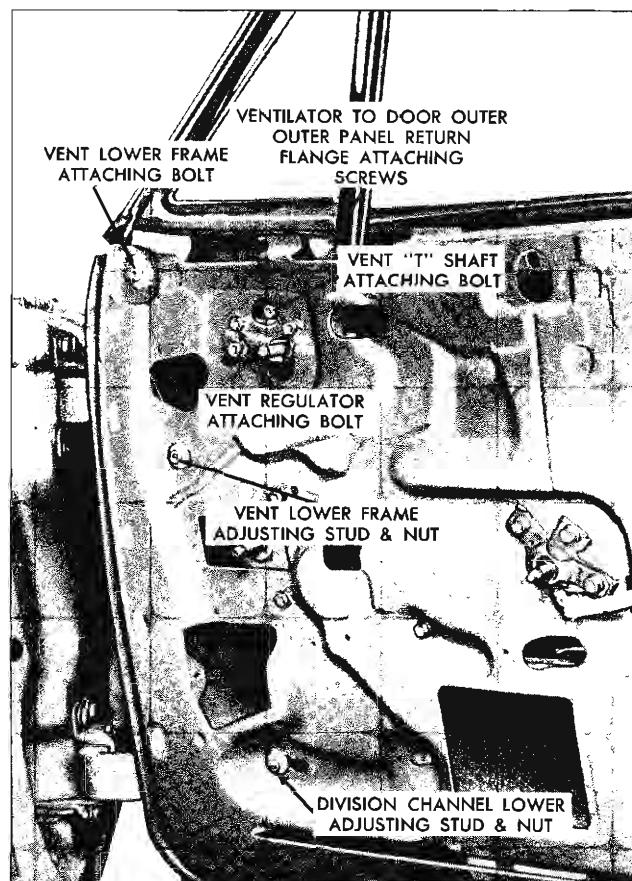

Fig. 3-27 Ventilator Attachment
3. Remove ventilator tee shaft attaching bolt and ventilator regulator attaching bolts (Fig. 3-27).
1. Excessive play (flutter) of ventilator at pivot shaft, when ventilator is in an open position, can be corrected by tightening ventilator T shaft to regulator attaching bolt (Fig. 3-27).
2. Lower door window. Remove ventilator to door outer panel return flange attaching screw (Fig. 3-27).
Turn adjusting stud in or out or position lower end of channel fore or aft, as required; then, retighten adjusting stud nut (Fig. 3-27).